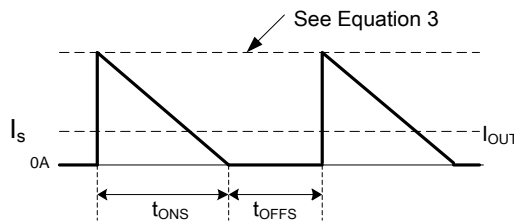

Figure 2. Secondary Current Waveform
The AP3190 is designed to work in constant current (CC) mode. Figure 2 shows the secondary current waveforms.